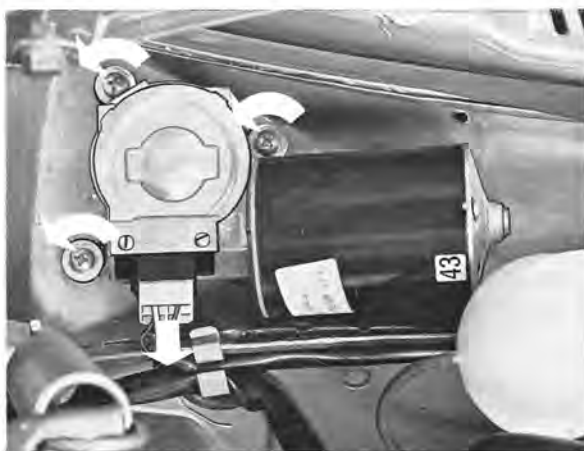

Fig. 3-102. Removing windshield wiper motor
3. Remove the three attaching screws (Fig. 3-102).
1. Place the wiper motor in position and install the attaching screws, see Fig. 3-102.